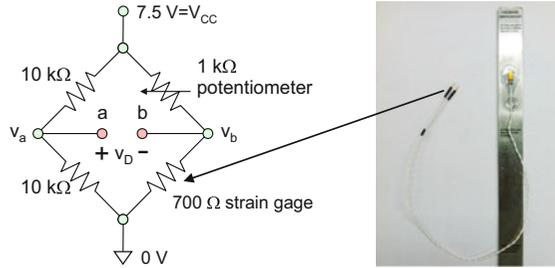
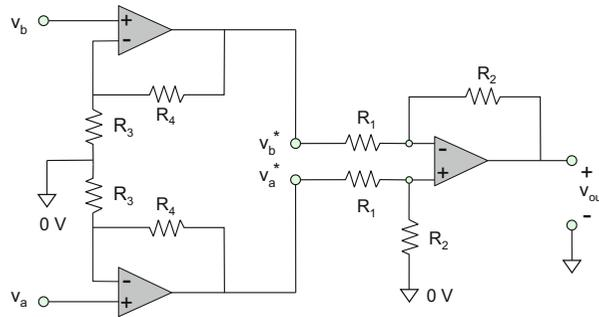
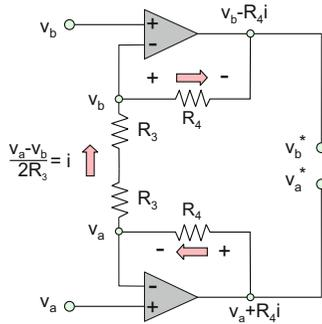
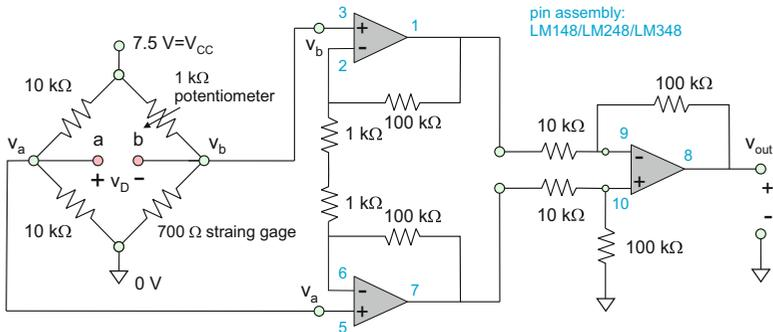

Fig. 5.31. A Wheatstone bridge sensor where the strain gauge forms one of the four resistors.
Fig. 5.32. An important step toward the instrumentation amplifier: we add non-inverting amplification stages at the input.
Fig. 5.33. Next step toward the instrumentation amplifier: we convert the non-inverting stage to a unity common-mode gain amplifier.
Fig. 5.34. The complete instrumentation amplifier for the strain gauge testing.
Figure 5.31 shows a  $700\text{-}\Omega$  uniaxial strain gauge. The strain gauge is attached to an aluminum slab. Figure 5.31 also shows a Wheatstone bridge intended for strain measurement with the present device. The dual-polarity supply voltage is  $\pm 7.5$  V. You may build the Wheatstone bridge according to Fig. 5.31a and connect it to a DMM, with the DMM leads attached to terminals  $a$  and  $b$ , respectively. In this configuration, the DMM measures the differential voltage  $v_D$ . Using the potentiometer, you may balance the bridge, i.e., reduce voltage  $v_D$  at no strain to a minimum, which should be within the range  $0\text{ V} \pm 3\text{ mV}$ . The highest DMM resolution should be used. Now, by applying a strong bending force to the slab with two hands, you probably could obtain a maximum voltage change of  $\pm 2\text{ mV}$ .
Thus, the solution for at least one problem is clear: we need to add an extra amplifier stage. One way of doing so is shown in Fig. 5.32. Two non-inverting amplifiers are added to both inputs of the difference amplifier. This design achieves two goals simultaneously. First, it isolates the amplifier circuit from the Wheatstone bridge since the non-inverting amplifiers have an infinite input resistance and do not sink any current from the bridge. Second, it adds the extra gain; in other words, it eases the burden on the difference
However, another problem arises there. The two non-inverting amplifiers amplify voltages  $v_a, v_b$  (close to 3.75 V in the present case). Therefore, at any appreciable gain (say,  $A_{CL} = 1 + R_4/R_3 = 10$ ), they simply saturate and will not function! To avoid this issue, we use a simple yet critical change shown in Fig. 5.33 where we remove the common-port connection from the non-inverting stage. The circuit in Fig. 5.33 behaves completely differently compared to the original circuit in Fig. 5.32. We no longer have the output voltages  $v_a^*, v_b^*$  given by
The details of the derivation are seen in Fig. 5.33. The currents and voltages labeled in this figure are obtained using two summing-point constraints. The key observation is that the absolute voltages  $v_a, v_b$  are no longer amplified but are simply passed through. Only the differential voltage  $v_D = v_a - v_b$  is amplified. The circuit in Fig. 5.33 is also a “difference amplifier,” and it may be called the *unity common-mode gain stage*. The final step in the construction of the *instrumentation amplifier* is to connect both stages together. Figure 5.34 gives the final circuit that can be employed in conjunction with the Wheatstone bridge for the strain gauge shown in Fig. 5.31. Here, a quad op-amp chip (LM148 series) is used; it has four individual amplifiers inside the chip. For our circuit, we need three of them. The circuit is powered by a  $\pm 7.5$  V dual supply. According to Eqs. (5.53) and (5.56), the overall (differential) gain in Fig. 5.34 becomes
The overall common-mode gain is exactly zero (ideal resistances). Choosing resistance values from Fig. 5.34 gives us an overall differential gain of 1010. We retain a certain gain (10) of the differential stage in order to have the gain of no more than 100 per stage.
The operation of the circuit in Fig. 5.34 is shown in Fig. 5.35. The oscilloscope resolution is 1 V per division. At no applied strain, the oscilloscope connected to the amplifier output (the ground terminal of the oscilloscope is connected to circuit ground) shows a relatively small output voltage signal. When a bending moment is applied, as shown in Fig. 5.35a, the output voltage rises to approximately 2 V. This voltage is sufficient to light up a yellow LED (light-emitting diode) indicator connected between the output port and common port. When the opposite bending moment is applied, as in Fig. 5.35b, the output voltage drops to approximately -2 V. This voltage, taken with a negative sign, is again sufficient to light up a red LED connected from the common port to the output port.
The circuit in Fig. 5.34 gives us the idea of a commercial *load cell*. Strain gauges are commercially available in prefabricated modules such as load cells that measure force, tension, compression, and torque. All four resistors of the Wheatstone bridge may be strain gauges. Load cells typically use a full-bridge configuration and contain four leads for bridge excitation and measurement. The manufacturers provide calibration and accuracy information. However, the load cells do *not* normally include the instrumentation amplifier itself. Another mechanical engineering example where the differential amplifier is quite useful is a thermocouple. When measuring a thermocouple in a noisy environment, the noise from the environment appears as an offset on both input leads, making it a common-mode voltage signal. Many other examples indeed exist, particularly in biomedical engineering. The instrumentation amplifier is used to amplify an output signal from virtually any analog differential sensor instrument. Also note that instrumentation amplifiers with precision resistors are available as separate integrated circuits. Those ICs have a much better performance than an instrumentation amplifier wired on the protoboard. Other instrumentation amplifier types exist, which are different from the topology of the instrumentation amplifier circuit in Fig. 5.34. In principle, it is possible to design an instrumentation amplifier circuit with only *two* amplifier gain stages. The summary to this chapter provides an example used in practice.